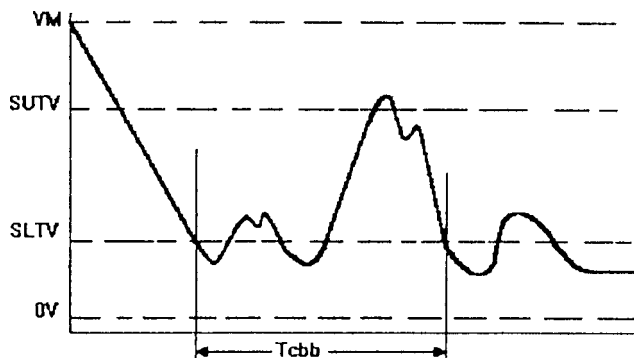

FIG. 1 Contact Bounce on Switch Break
3.1.2 *contact bounce time (break)*,  $T_{CBB}$ —the time period measured from the first instant  $V_M$  is equal to the SLTV until the first instant it again falls below the SLTV after the last instant it rises above the SUTV. If  $V_M$  does not rise above SUTV during the time interval,  $T_{CBB} = 0$ , (see Fig. 1).